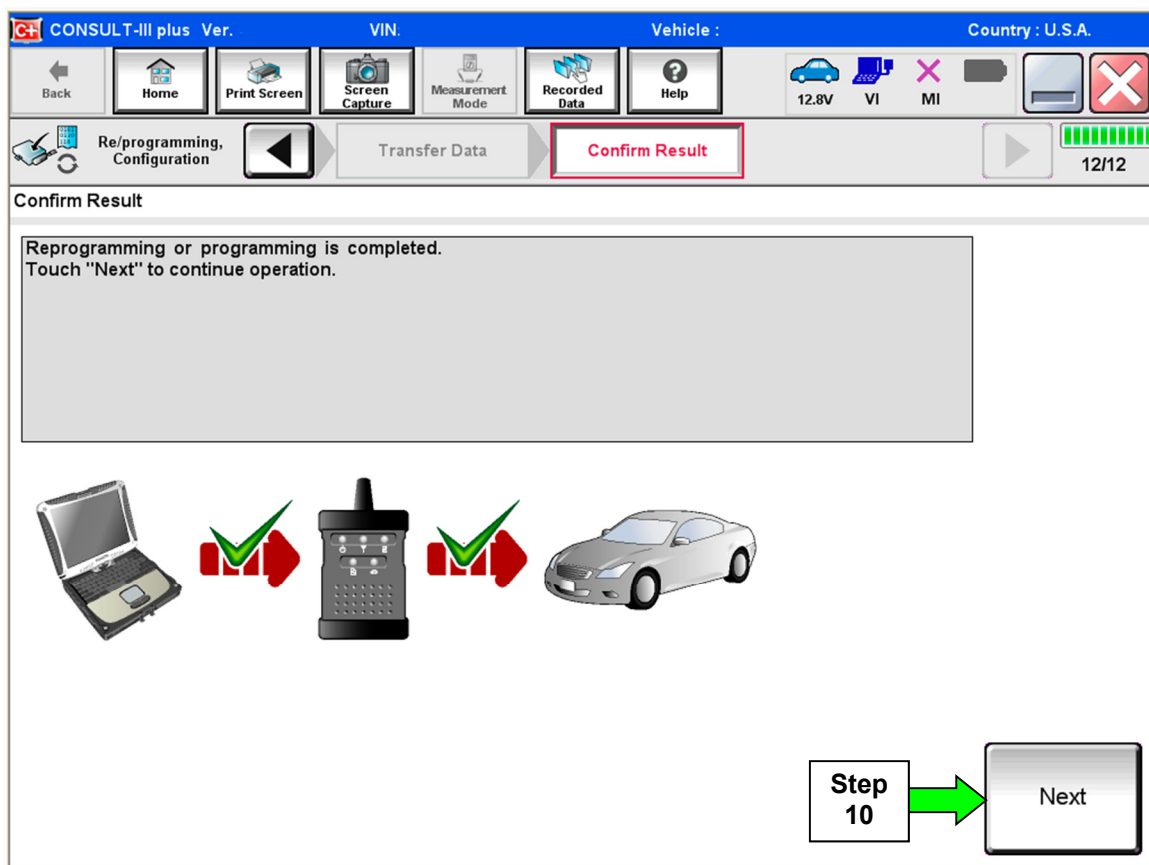

Figure 5
8. When the screen in Figure 5 displays, reprogramming is complete.
NOTE: If the screen in Figure 5 does not display (reprogramming does not complete), refer to the information on page 8.